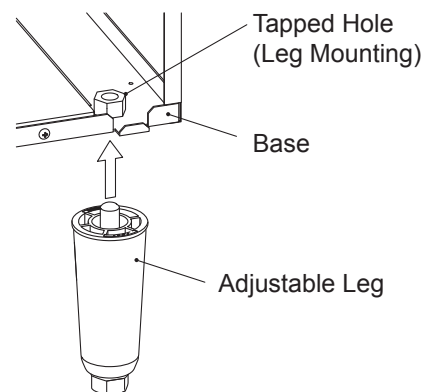

Fig. 3
- 5) If installing the unit with legs on the bottom, use the four accessory legs adjustable from 6" (15.2 cm) to 7" (17.8 cm). Screw the legs tightly into the tapped holes in the base (see Fig. 3).